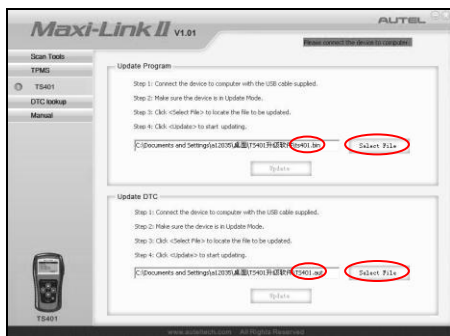

Figure 5.2
- 4) Run the Maxi-link II Kit in your computer. (Figure 5.2)